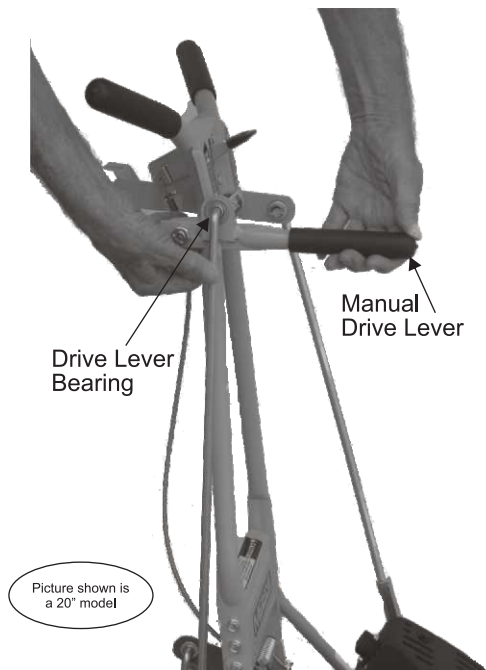

FIGURE 4: Insert the upper end of the drive control rod through the manual drive lever bearing, then secure with a cotter pin.
- B. Rotate the manual drive lever forward, and insert the upper end of the drive control rod through the manual drive lever bearing (see Figure 4 on page 6).